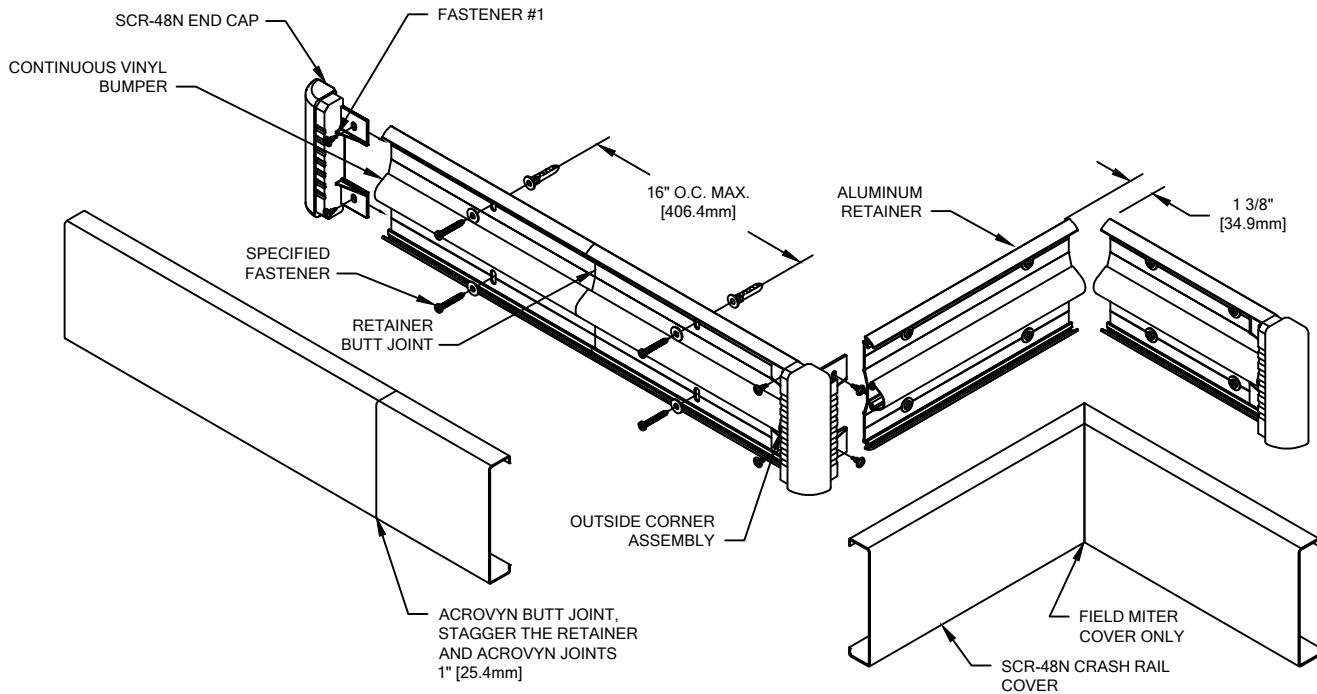

FIGURE 1.
2. CUT THE CONTINUOUS ALUMINUM RETAINER AND THE CONTINUOUS VINYL BUMPER TO LENGTH, USING THE REQUIRED DEDUCTIONS AS NOTED (SEE LAYOUT VIEW). PRE-DRILL CLEARANCE HOLES IN THE ALUMINUM RETAINER 16" [406.4mm] O.C. AS REQUIRED (SEE FIGURE 1), REFERENCE CHART ON PAGE 2 FOR DRILL DIAMETERS.
6. ATTACH END CAPS/OUTSIDE CORNERS BY SLIDING THE END CAP/OUTSIDE CORNER ONTO THE END OF THE ALUMINUM RETAINER AND SECURING INTO POSITION USING TWO 1/2" WAFER HEAD TEK SCREWS AT EACH END CAP AND FOUR AT EACH OUTSIDE CORNER. (SEE FIGURE 1 ABOVE)